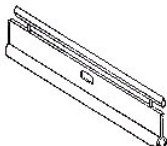

Figure 4
1. Shorten the headrail at the end with the smaller endcap and white plastic adjustable stop ring; at this end you will see a label marked "cut from this side" on top of the track. - see figure 4 above.
3. Cut completely through the headrail at the desired length using your hacksaw - make sure the cut is square - see figure 4 above.